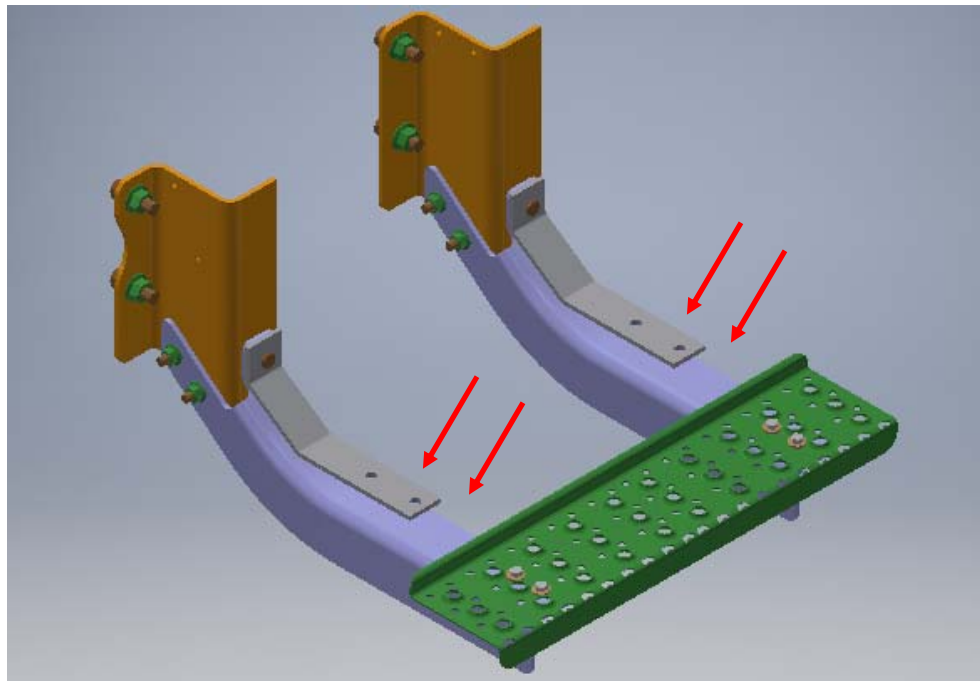

Figure 3: Pump Plate Supports Location
5. Install the Pump Plate Supports (R-20550) using the bolts that were just removed. Bolts do not have to be torqued at this time as we must mark and drill the mating holes for the lower portion of the supports. (Figure 3)
6. Ensure the Pump Plate Supports are parallel with the step's mounting bracket and mark holes to drill. (Figure 3)